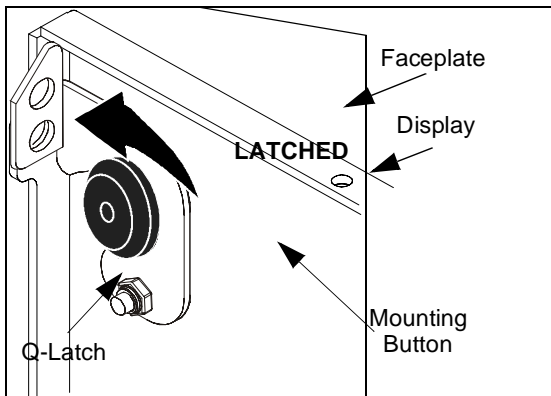

Figure 8
- Secure display by rotating both Q-Latches to the fully LATCHED position (See Figure 8). If one or both Q-Latches do not fully engage, ensure the mounting buttons are fully seated in the teardrop slots.
- UNLATCH both Q-Latches to unlock the display (See Figure 8).